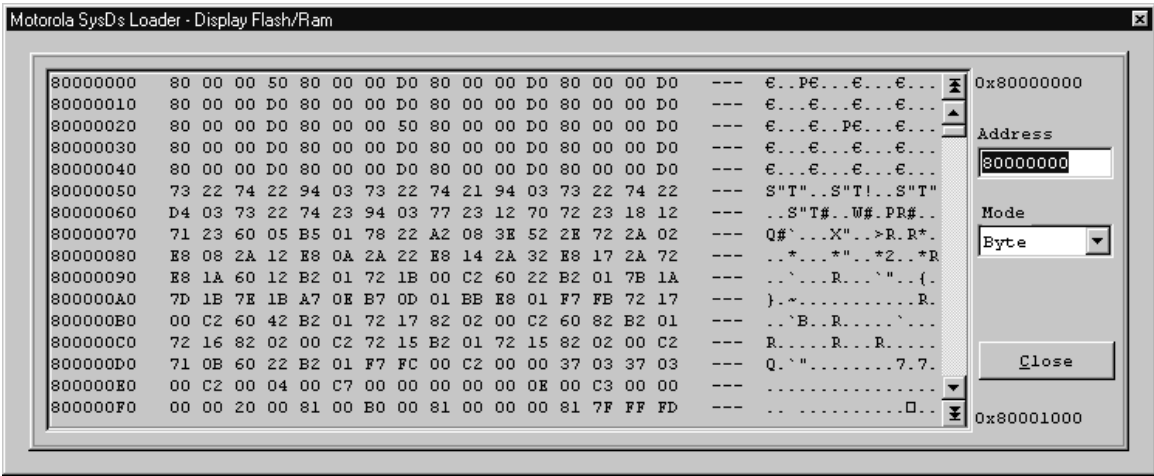

Figure 3-6 Display Flash/Ram Screen
12. To view the contents of FLASH memory, click the **Display** button on the main screen. The Display Flash/Ram screen appears, as shown in Figure 3-6.